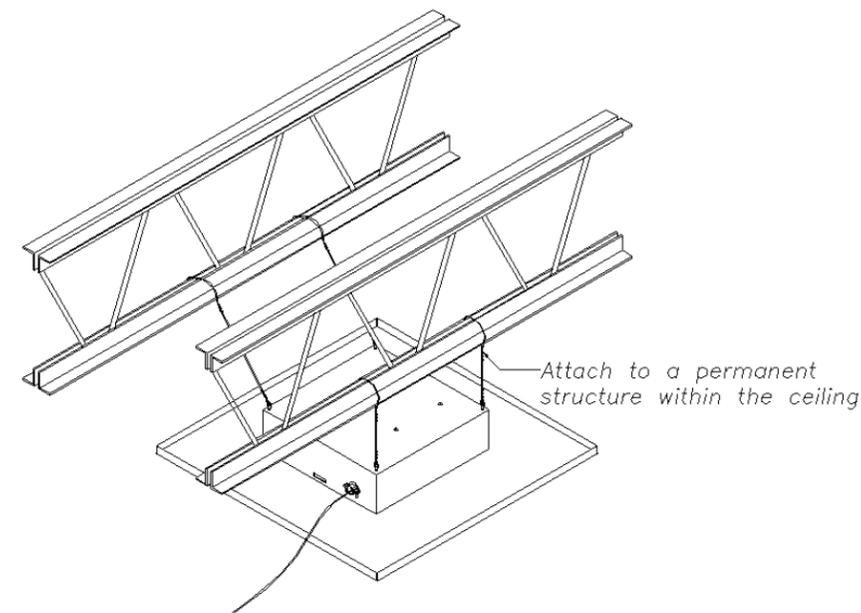

Figure 3 - Installation of grid wires and Ethernet cable.
Step 2 – Use minimum 12-gauge grid wire to attach the ceiling tile mount to the ceiling. Attach one end of the wire to the eye tabs and the other end to a permanent structure within the ceiling, such as a ceiling joist (Reference Figure 3).